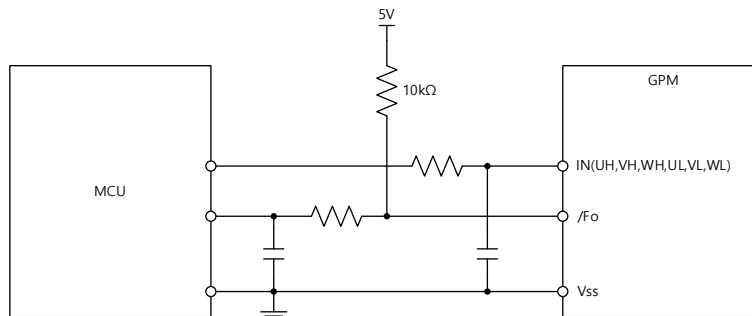

Figure 7. Recommended MCU I/O Interface Circuit
9. Fault output is an open-drain type. This signal line should be pulled up to the positive side of the MCU or control power supply with a resistor that makes I_{FO} up to 1 mA. Please refer to Figure 7.
10. Input signal is active-HIGH type. There is a 5 k Ω resistor inside the IC to pull-down each input signal line to GND. RC coupling circuits should be adopted for the prevention of input signal oscillation. RC time constant should be selected in the range 50~150 ns (recommended R = 100 Ω , C = 1 nF). Please refer to Figure 7.